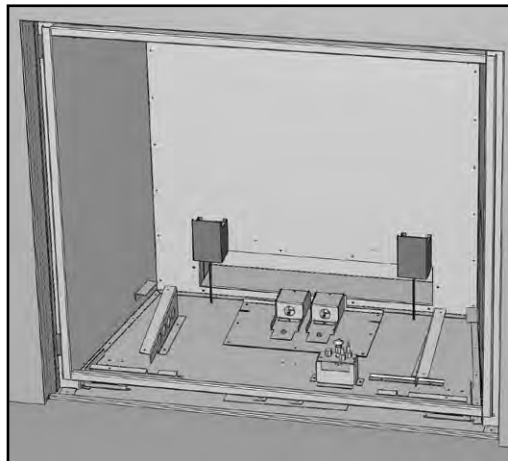

Figure 94: Porcelain Light Covers in Place.
1. Install the porcelain Light Covers over the Light Cover Base. The tabs on the back of the Light Cover slide down behind the Light Cover Base. Refer to Figures 94 & 95.